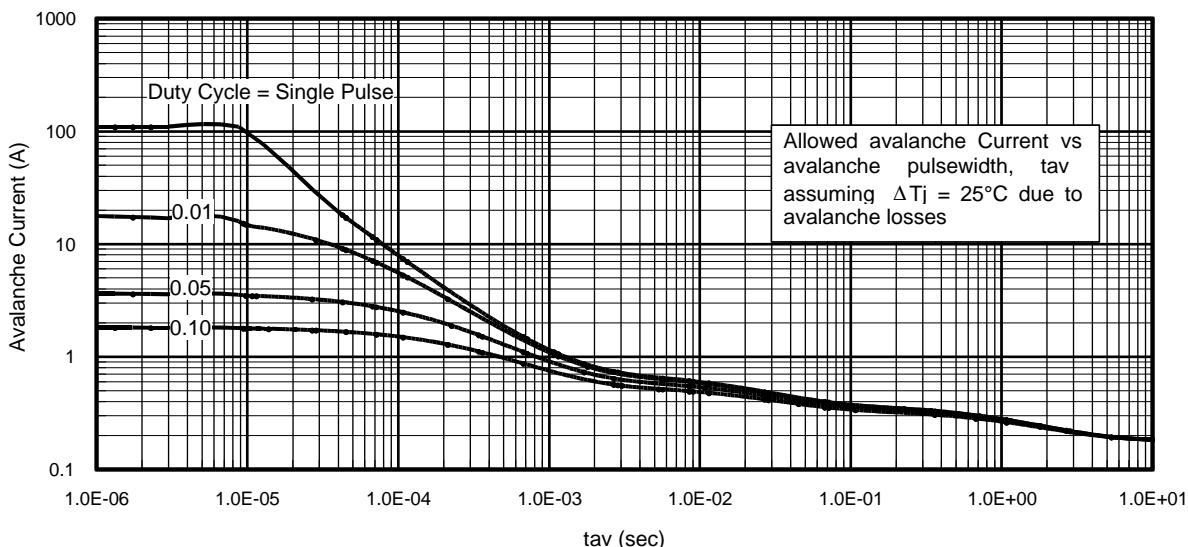

Fig 14. Typical Avalanche Current Vs. Pulsewidth
Notes on Repetitive Avalanche Curves , Figures 14, 15:
7. ΔT = Allowable rise in junction temperature, not to exceed T_{jmax} (assumed as 25°C in Figure 14, 15).
- ① Repetitive rating; pulse width limited by max. junction temperature.
- ② Starting $T_J = 25^\circ\text{C}$, $L = 1.5\text{mH}$, $R_G = 25\Omega$, $I_{AS} = 13\text{A}$.
- ③ Pulse width < 400μs; duty cycle < 2%.
- ④ R_0 is measured at T_J of approximately 90°C .
- ⑤ Limited by $T_{J\max}$. See Figs. 14, 15, 17a, 17b for repetitive avalanche information.